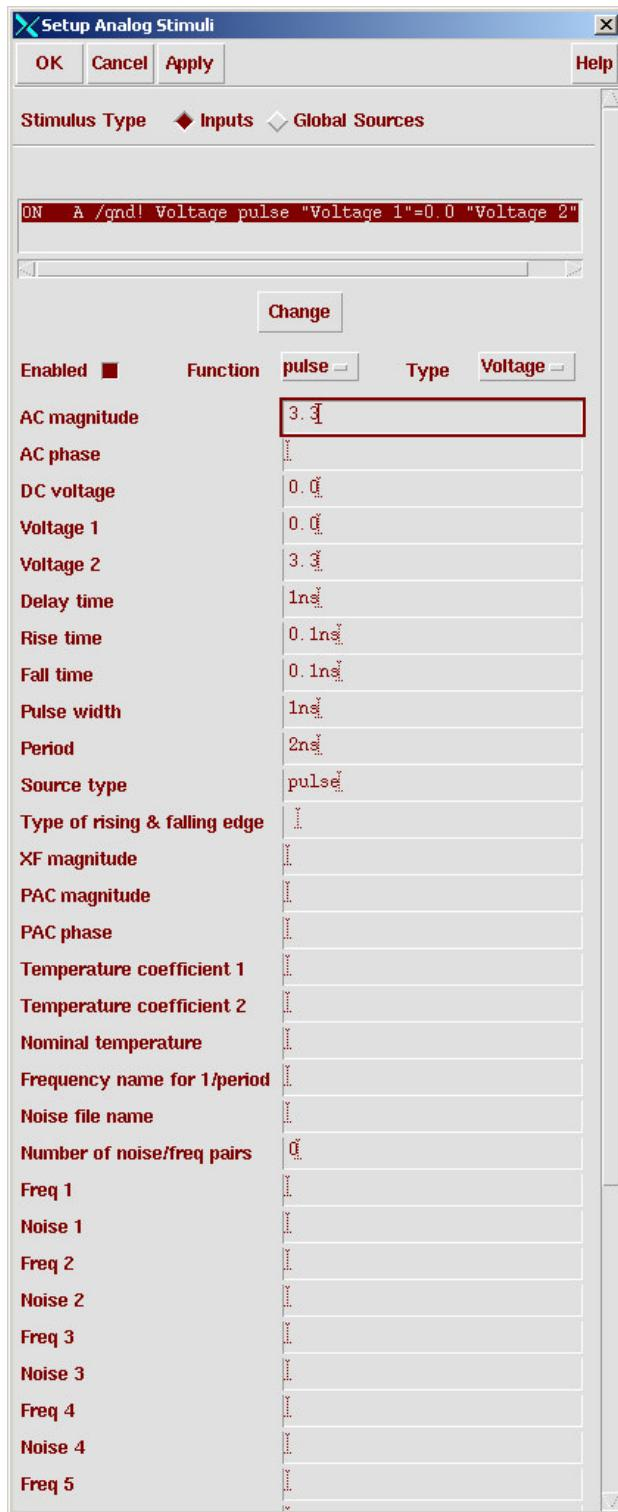

Figure 15. Setup Analog Stimuli Window
3. In the **Analog Design Environment** window, click **Setup**, then **Setup Stimuli**. You should get a rather long window pop up as shown in Figure 15.
5. Change **function** to **pulse**. Click **Enabled**, Set the first 10 parameters to: 3.3, <blank>, 0.0, 0.0, 3.3, 1ns, 0.1ns, 0.1ns, 1ns, 2ns as shown in Figure 15.